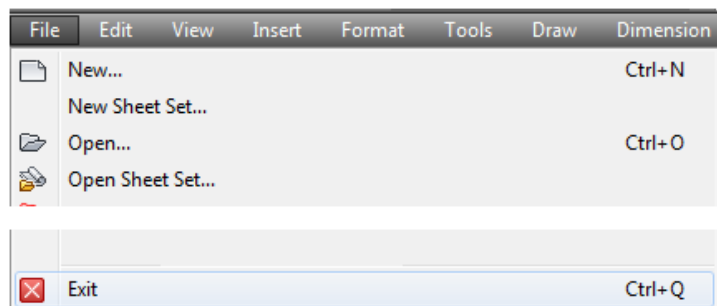

Figure Step 10
Step 10 Click File on the Pull-down menu. Click Exit to close AutoCAD. If you are asked if you want to save the drawing, click No. (Figure Step 10)